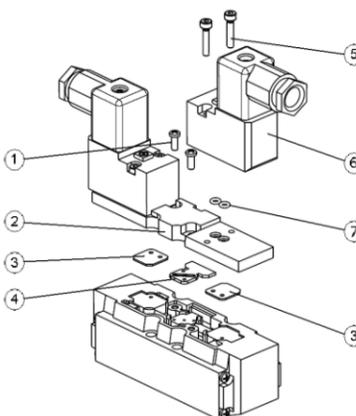

Figure 18
7.2.1 Replacing Function Plate (see Figure 18)
7.2.2 Replacing Seals (see Figure 18)
7.2.3 Replacing Pilot Valve (see Figure 18)